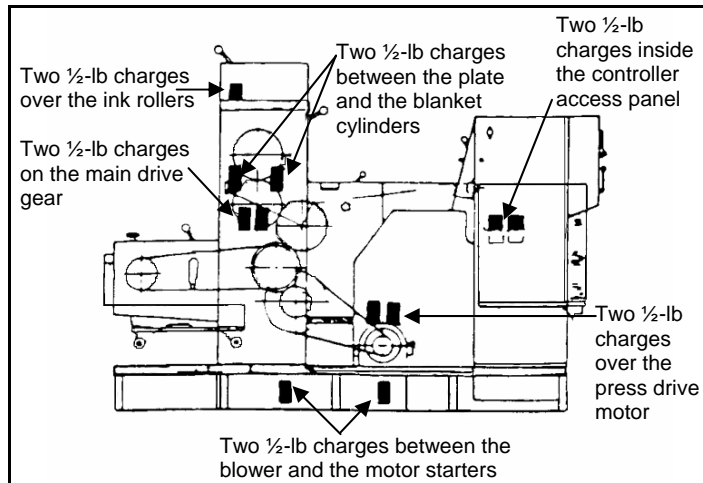

Figure 1. Offset Press (Single-Color)
a. Explosives. Place as many charges as the situation permits or are necessary, and detonate them simultaneously with a detonating cord and a suitable detonator. Refer to Figures 1–3 for placement of explosive charges.